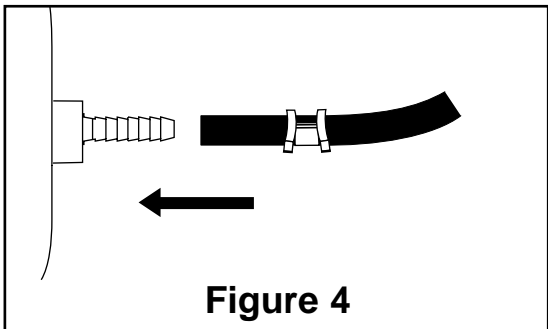

Figure 4
- G. Push the air line onto the stem, covering all the barbs. With pliers slide the air line clamp upward until it fully covers the barbed section (Figure 4).
- D. Slide air line clamp onto the cut air line. Push the air line onto the stem, covering all the barbed section. With pliers slide the air line clamp forward until it fully covers barbed section (Figure 4).